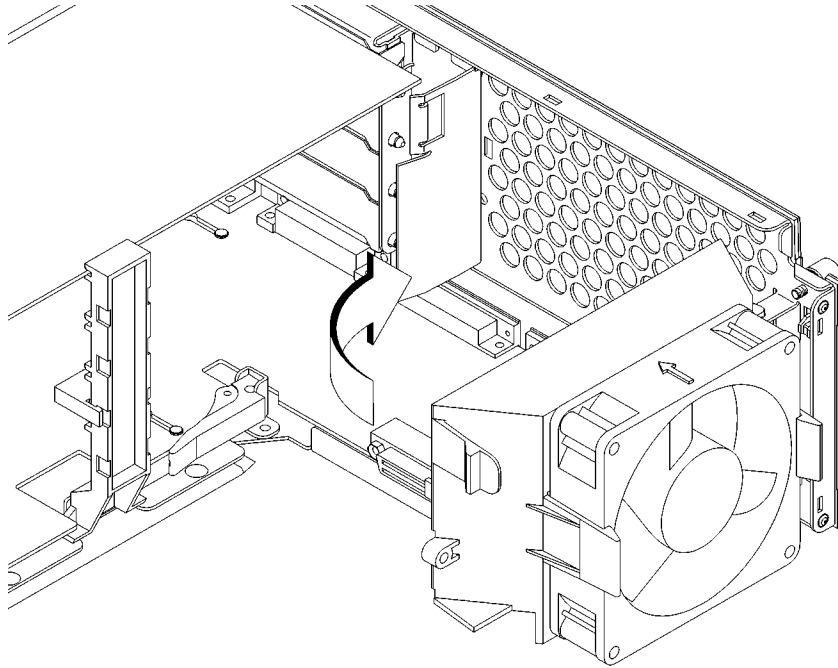

Figure 48
- 13** Rotate the fan back into place, as shown in Figure 48. Push it into the rear panel firmly until the clip snaps into place.